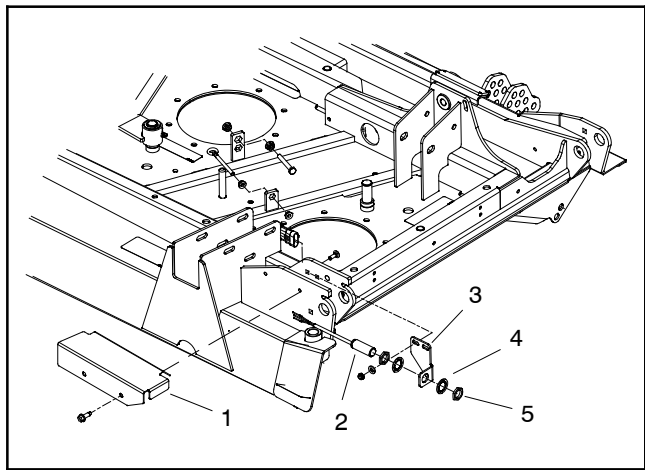
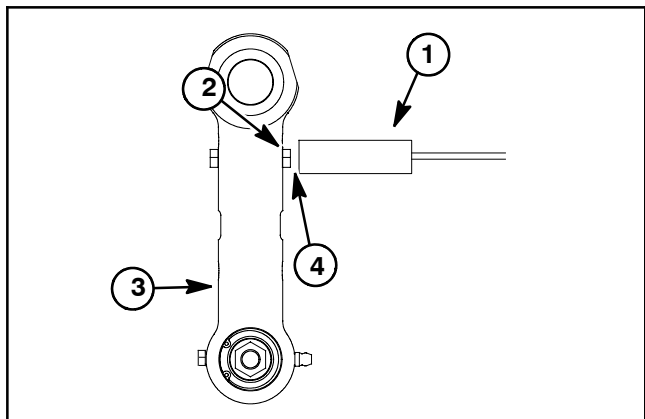

Figure 83
Figure 84
Two (2) wing deck position switches are used on the Groundsmaster 4100-D and 4110-D as inputs for the TEC controller. The position switches are powered proximity switches that are normally open. The switches incorporate an internal reed switch and a LED. These switches are secured to the center section of the cutting deck (Fig. 83). A bolt head on the wing deck link is the sensing plate for the position switch (Fig. 84).
2. Park machine on a level surface, lower cutting deck (including wing decks), stop engine and apply parking brake. Remove switch cover from deck to allow access to switch that requires testing (Fig. 83).
C. Make sure that gap between end of position switch and bolt head on wing deck link when the wing deck is lowered is from **0.070" to 0.130" (1.8 to 3.3 mm)** (Fig. 84).